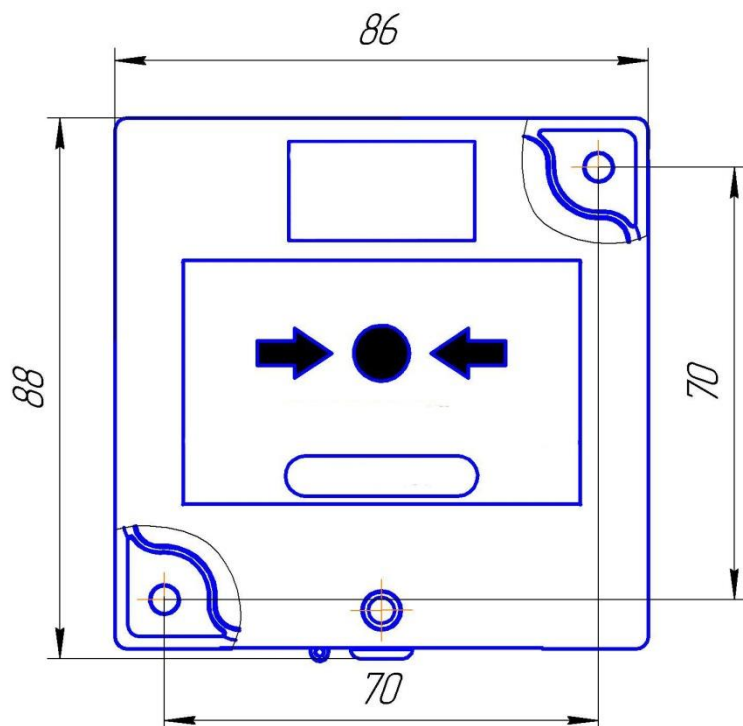
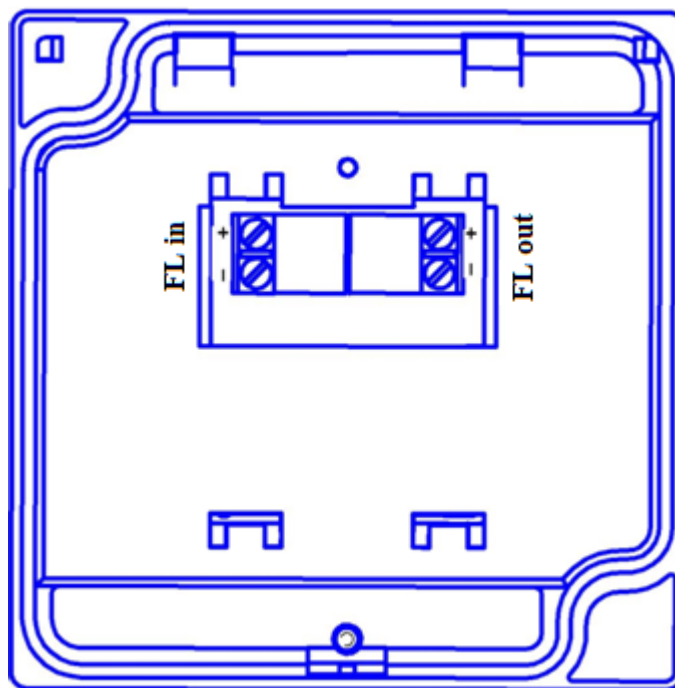

Fig. 1- Overall and mounting dimensions CV1513.
Fig. 2 - General view and arrangement of contacts on the block CV1513.
1.3.2. The overall and mounting dimensions of the detector CV1513 are shown in Fig. 1, the arrangement of the terminals on the block is shown in Fig. 2.
- mark the places of installation of dowels according to Fig. 1;